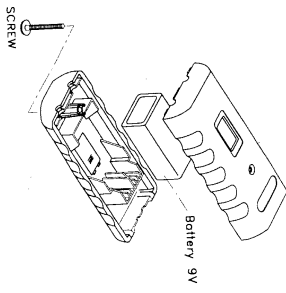

Figure 2
- The meter is powered by a alkaline 9V battery. Refer to Figure 2 and use the following procedure to replace the battery.